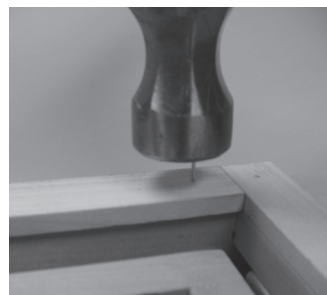

Fig 4
Step 3. Install rear scribe rail between upper and lower scribe rails on the back edge of the filler chassis. **NOTE:** The back edge of the filler chassis should be flush with the back edge of the rear scribe rail. (See Fig 4).